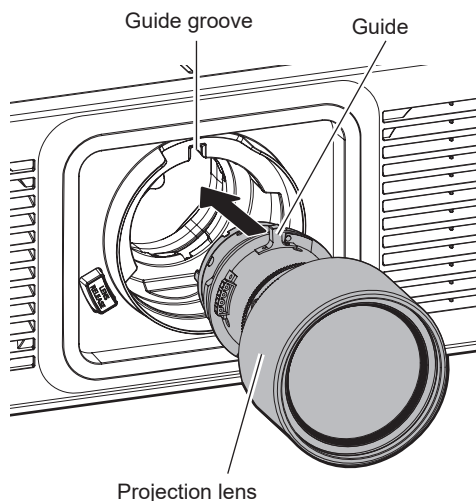

Fig.2
2) Align the projection lens guide to the guide groove of the projector and insert to the end. (Fig. 2)